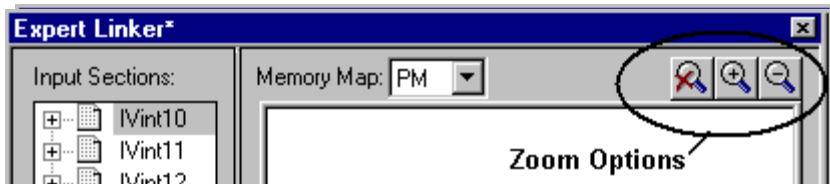

Figure 4-24. Memory Map – Zoom Options
- To enable post-link view from the **Memory Map** pane, right-click and choose **View and Link Results (Post-Link)**. Figure 4-24 on page 4-31 illustrates a memory map after linking is performed.
From the **Memory Map** pane, you can zoom in or out incrementally or zoom in or out completely. Three buttons at the top right of the pane perform zooming operations. Horizontal and/or vertical scroll bars appear when there is not enough room to display a zoomed memory map in the **Memory Map** pane (see Figure 4-24 on page 4-31).